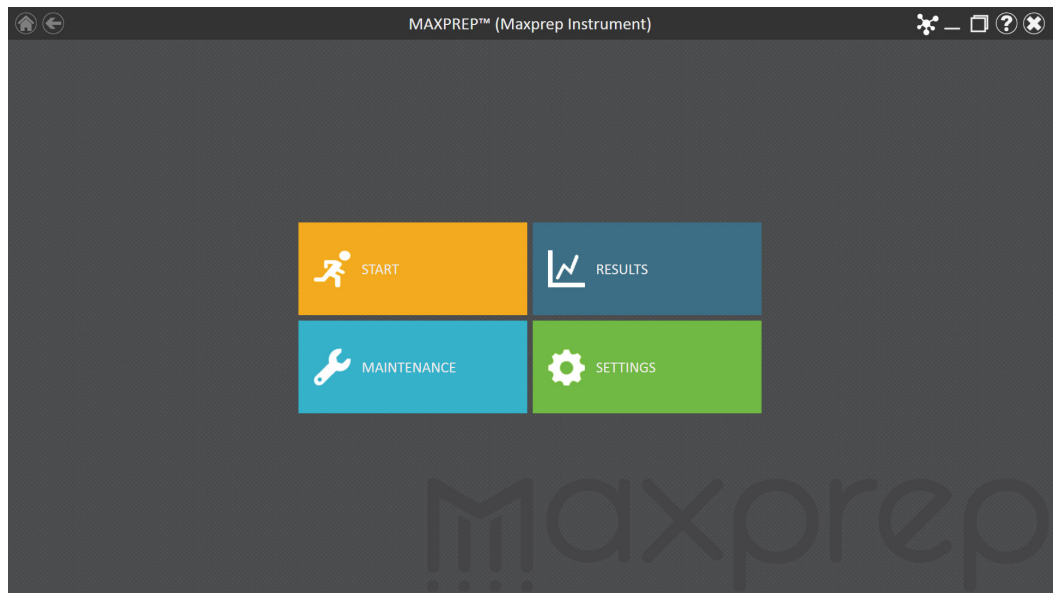

Figure 1. Maxprep® software 'Home' screen. From the Maxprep® software 'Home' screen, select the **Start** button to begin the process of running a method.
2. From the Maxprep® software 'Home' screen (Figure 1), press the **Start** button.